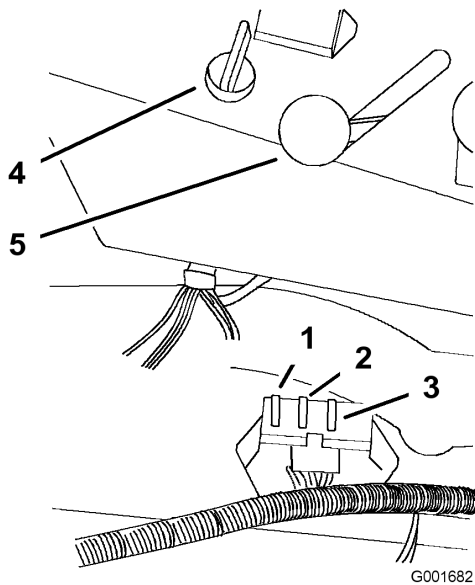

Figure 42
- Raise the seat to gain access to the fuse holder (Figure 42).
- Install a new fuse (Figure 42).